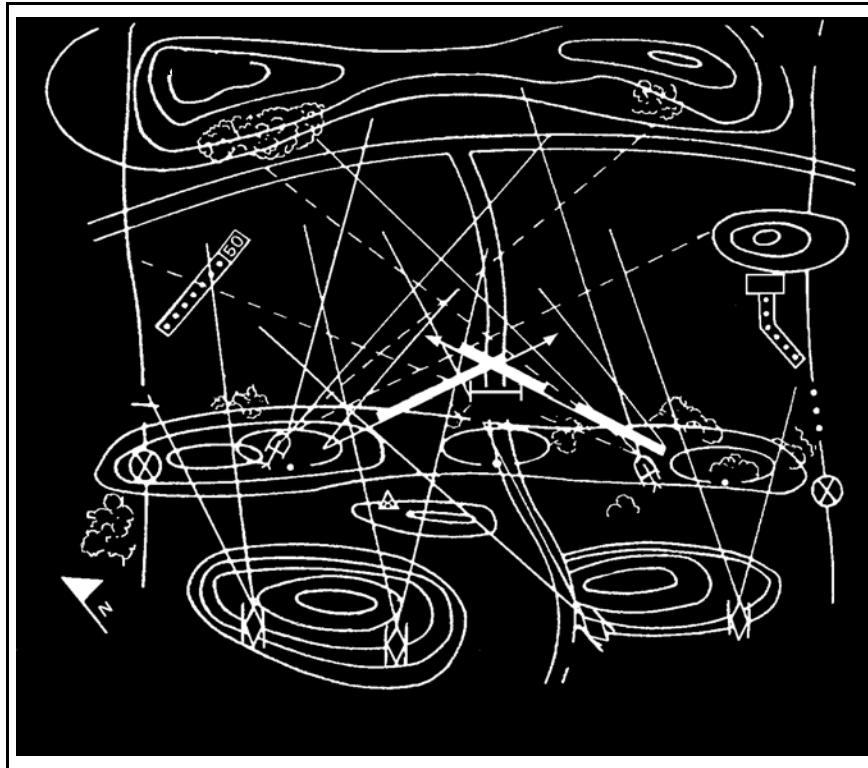

Figure 1. Sample light infantry platoon sector sketch.
3. The sample sector sketch fire plan in Figure 1 incorporates all the above listed points as taken from the squad sector sketches.